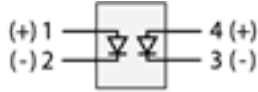

FIGURE 12. Diode Pack.
**Diode Pack (DP), Specifications:**
Diode Pack (DP) are Series-A (4 Pin) components. Each Diode Pack component contains two independent diode circuits. See Figure 12.